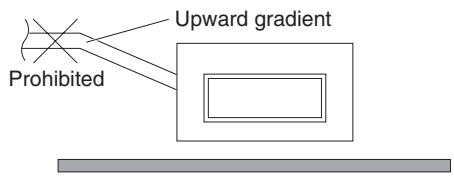

Fig. 3-16
- Do not install the pipe with an upward gradient from the connection port. This will cause the drain water to flow backward and leak when the unit is not operating. (Fig. 3-16)